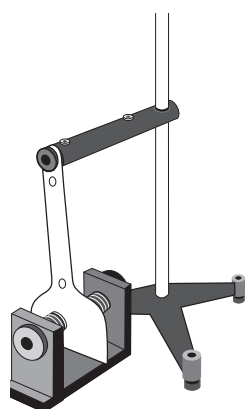

Figure 5
- ② Slowly bring the magnet into position so that the paddle hangs between the poles of the magnet (Figure 5). (If the magnet is moved into position too quickly, the paddle will move). Point out to the class that the paddles are made of aluminum, which is not a ferro-magnetic material and is not attracted to magnets.